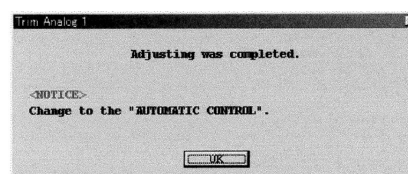

Fig.112
- ⑪ Clicking on "Cancel" button completes the analog output trim. A message box like the one shown in Fig. 112 appear. Click on "OK" button.